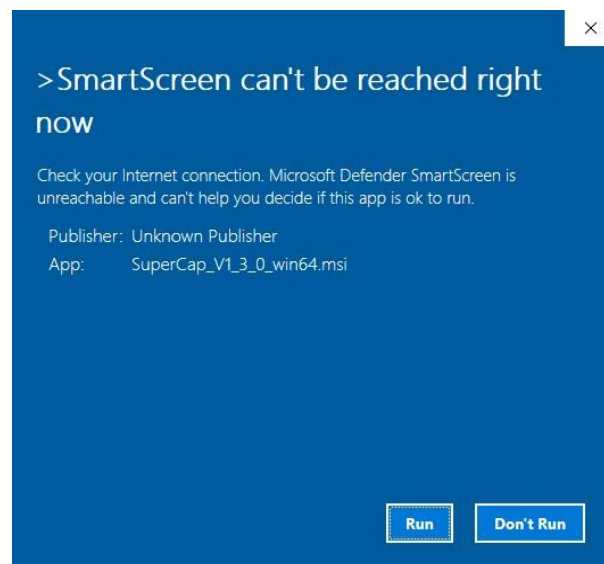

Figure 4-7: Welcome Screen
Step 2: A message screen appears (**Figure 4-7**). To continue the installation process click **Run**.